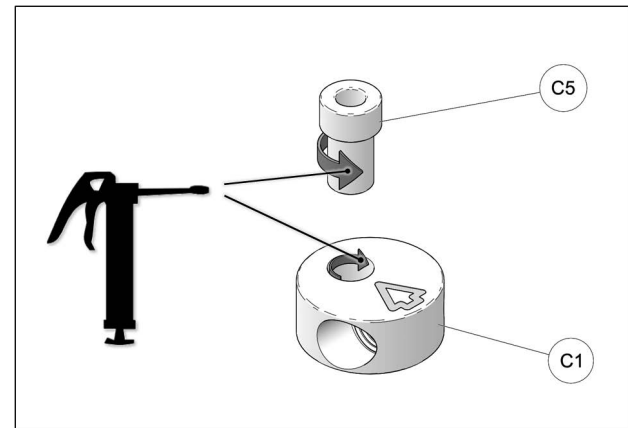

Fig. 34
17. Apply grease evenly all around step spacer bushing (C5) and in hole of aluminum disk (C1) when assembling these parts together. See Fig. 34